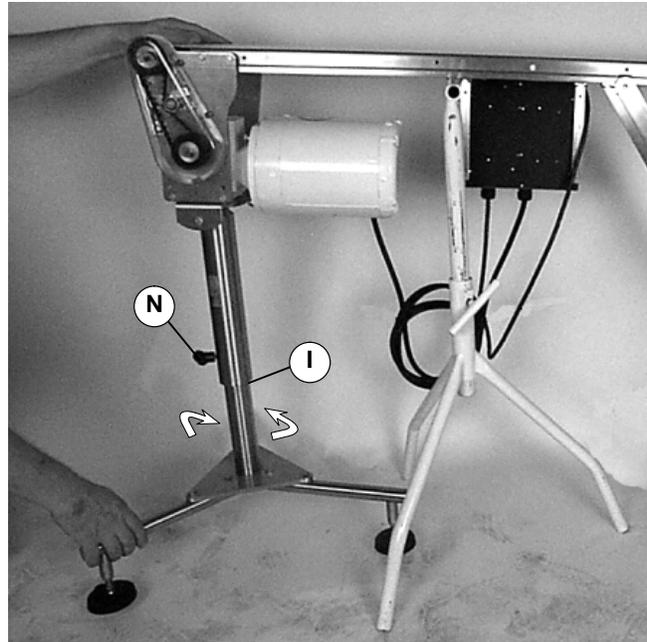

Figure 29
1. Raise the end of the conveyor and safely support it so that the stand feet (or casters) are not touching the floor(Figure 29).
2. Loosen the knob (N).
3. Rotate bottom portion of tube assembly (I) to adjust stand height.
4. Re-tighten knob (N).